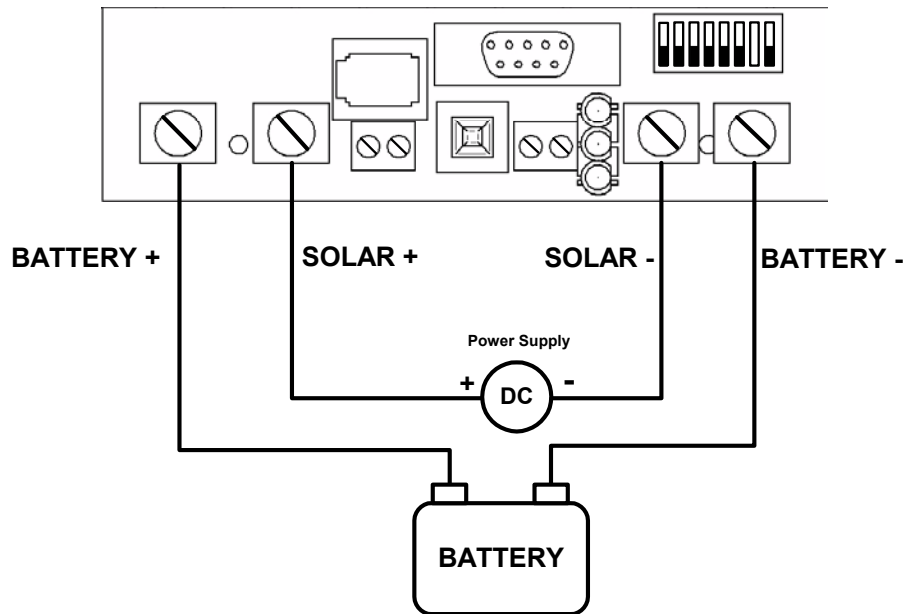

figure 3
1. Adjust the DIP switches as shown in the diagram. DIP 1-6 & 8 should be in the “OFF” position as shown in figure 3. It does not matter which position DIP 7 is placed.